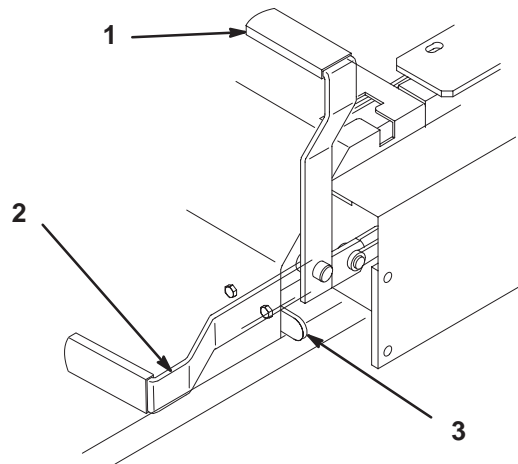

Figure 15
2. Pull back and up on the parking brake lever to set the parking brake (Fig. 15). The parking brake lever should stay firmly in the **engaged** position.
1. Push forward and down on the parking brake lever release the parking brake (Fig. 15). The parking brake is **disengaged** and the lever rests against the brake stop.